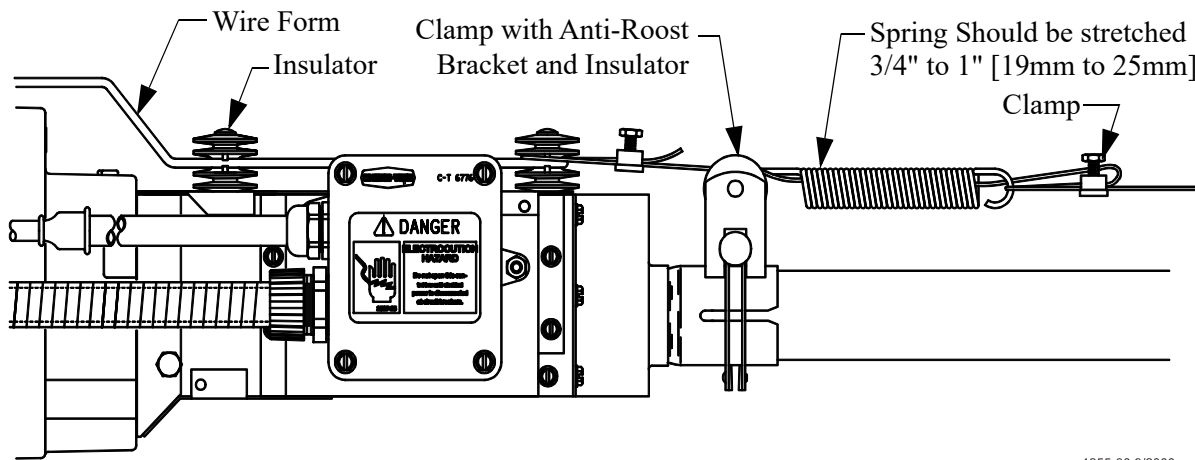

Figure 48. Anti-Roost Installation at the Control Unit
14. At the control unit, after clamping the cable to the spring, cut the cable about 8" to 10" [200 to 250 mm] longer than necessary. Feed the end of the cable through the center of the spring, around the first insulator on the control unit, and clamp the cable using the cable clamp supplied with the control unit. (See Figure 48). Install the wire form on the control unit insulators. Be sure the guard snaps into the retainers molded into the insulators. (See Figure 48).